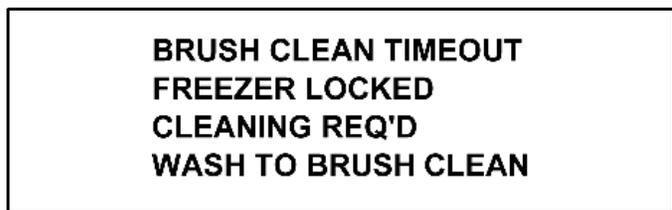

Figure 2-17
1. The brush-clean timer has elapsed (maximum setting of 28 days). (See Figure 2-17.)